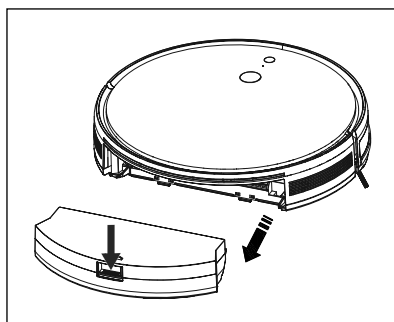

Fig. 7
- 1) Press the release button **15** on the dust container **16**, and pull it out of the appliance (see Fig. 7).